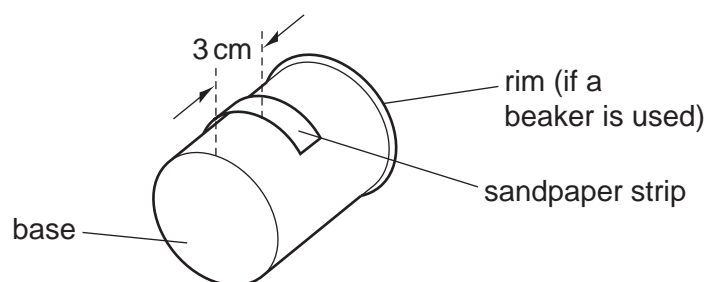

Fig. 1.1
- 2 The sandpaper strip should be fixed around the beaker using a light glue (such as Pritt Stick or UHU), as shown in Fig. 1.1.